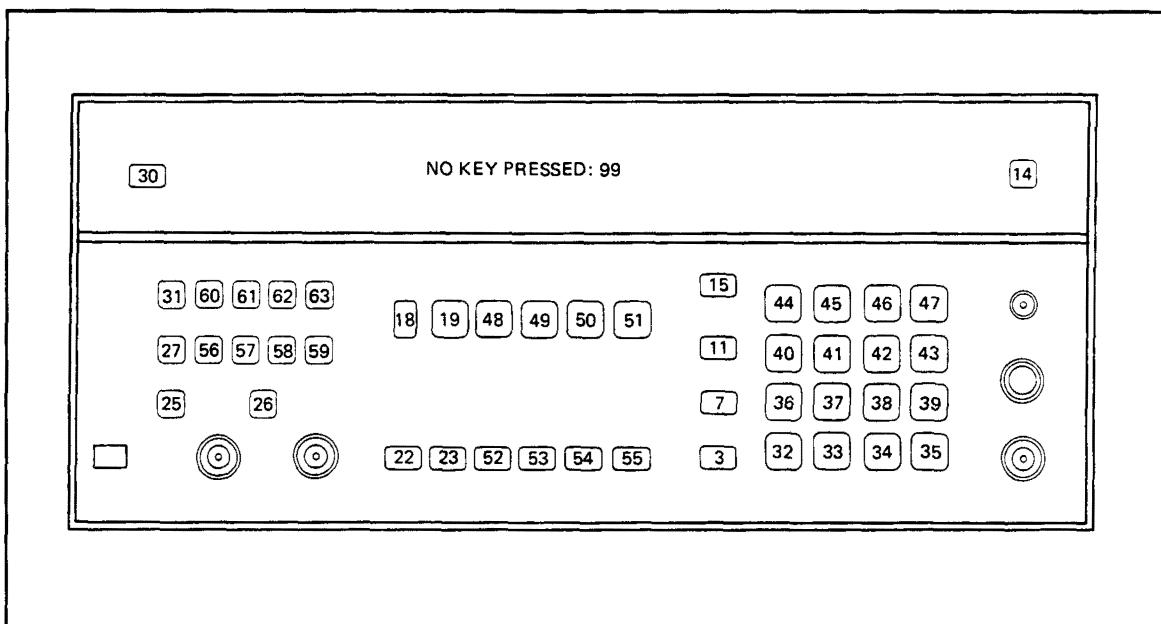

Figure 8D-8. Key Codes for Key Scan
⑥ Keyboard Key Check
1. Key in 60.0 SPCL. As the Special Function code is entered, 60.0 should appear in the display. This indicates that the Controller responds to keyboard interrupts. If faulty, see ⑦ and ⑧. While the SPCL key is down, 35 should appear in the display. After releasing the SPCL key, 99 should appear in the display. If another number appears, continue on.
3. Press the keys one at a time and compare the display with the key codes shown in Figure 8D-8. If a code other than 99 appears in the display with no key pressed, the key corresponding to the displayed key code is probably stuck down; see Service Sheet 25. If a wrong code appears for one or more keys, check the corresponding key and decoder; see Service Sheet 25.